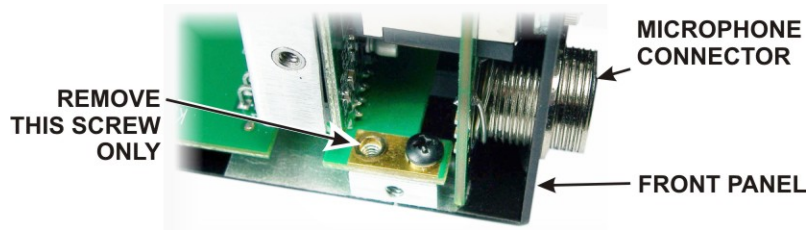

Figure 3. Removing the 2D Screw.
Remove the screw shown in Figure 3. It is located directly behind the front panel microphone connector. There may be a lock washer under the screw. If so, save it with the screw. Removing the screw ensures the pc boards on the front panel assembly will have adequate clearance when the front panel assembly is removed in a later step. Remove only the screw shown. Leave the other screw in place as shown in the figure.
- Replace the 3/16" (4.8 mm) black pan head screw and, if used, lock washer in the 2D fastener (see Figure 3 on page 7).